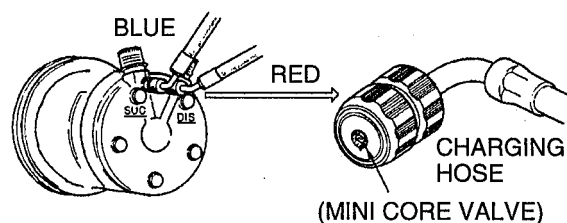

Fig. 26 Connecting piping with compressor
- Connect the end bent like "L" of the charging hose with the service valve of the compressor. If the charging hose is connected the opposite way, the mini core valve of the compressor does not open. (See Fig.26.)